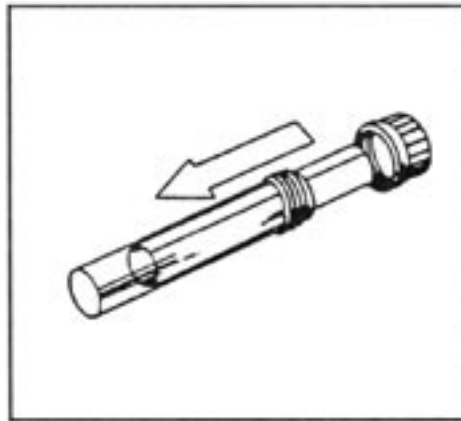

Figure 2
3. Insert rolled membrane/mesh into a hybridization bottle containing a small volume of buffer, and secure leak-proof cap (see Figure 2). **TECH TIP: Do not overtighten the cap! For the best seal, the caps should be hand-tight: tighten just until firm resistance is felt. Overtightening will distort the cap and result in leaking bottles.**